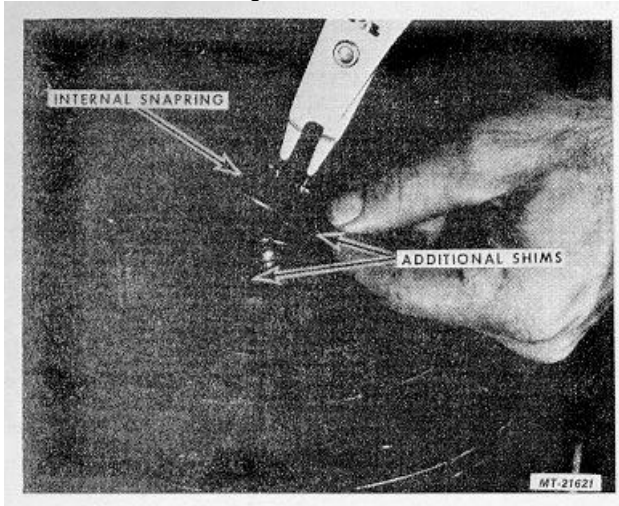

Fig. 91
54. Remove Internal Snapping and install the proper additional Shims, Fig. 91, as determined in Step 53. Replace Internal Snapping. Repeat the procedure described in Steps 53 and 54 to obtain a gap of 0.013"-0.127"mm (.0005"-.003"). Be sure Internal Snapping is properly seated in the groove.